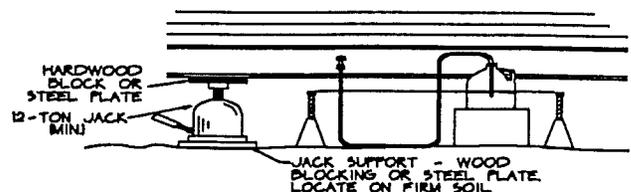

FIGURE 9
5. The water level previously referred to is now positioned at a height whereby the level of the water inside the reservoir is exactly at the height the bottom of the steel frame will be in its final position. (See Figure 9)